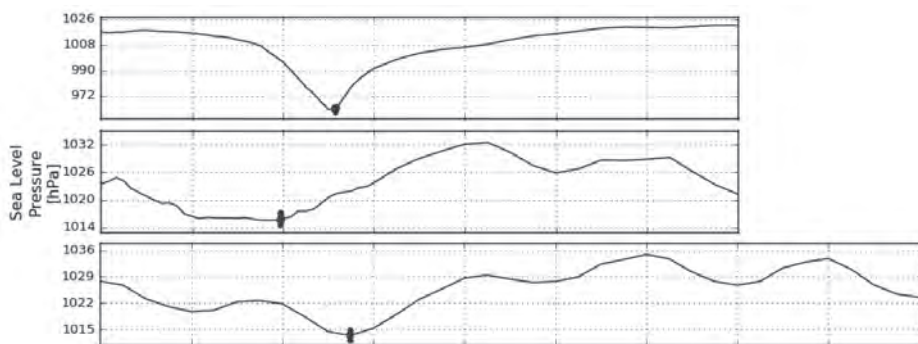

FIGURE 3
2. If the pressure flatlines or decreases only slowly before suddenly increasing, chances are that a surface frontal passage lies right at the very beginning of the pressure increase. This is displayed in the middle diagram in Figure 3. Since this dip bottoms out near 1,015 hPa, weather associated with this feature is not expected to be intense. Note also how different the scale is compared to the hurricane case.
3. If pressure also shows a diurnal pattern, as in the bottom diagram of Figure 3, it becomes tricky to see the pressure dip, but examining conditions at the time of the lowest pressure dip is a very good first approach.
1. The deeper and more intense the pressure dip, the more intense the weather that may occur. The top diagram in Figure 3 is from a hurricane passage in Nova Scotia; this should be easy to pick out. Check the scale and how intense the pressure drop is.